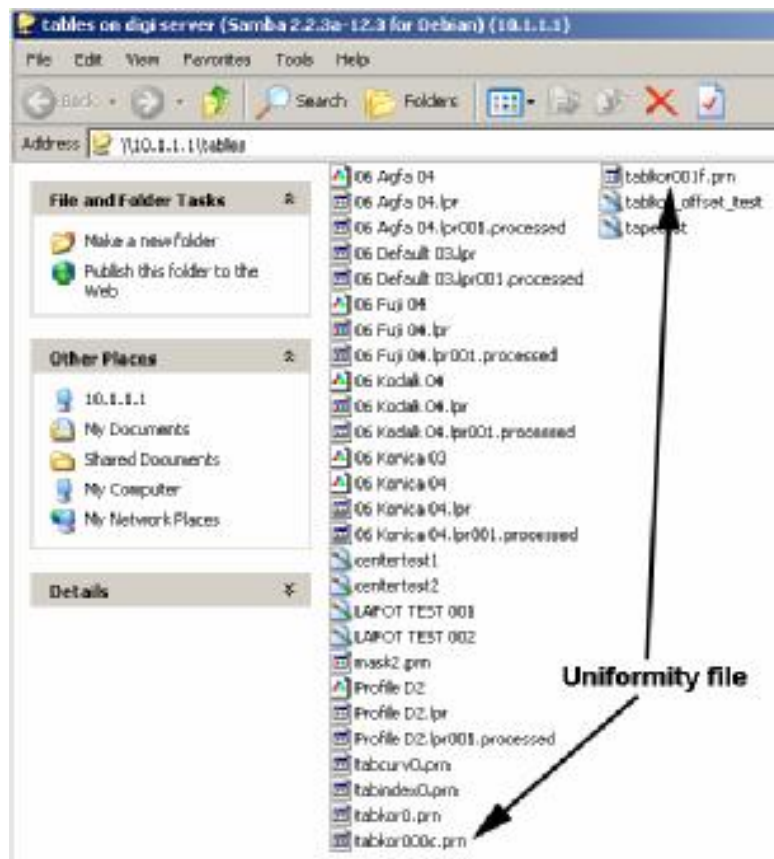

Fig 2.7.13
- While printing, the computer will select the proper lens depend on the format automatically, and in **lregedit** it will go to **etc/lens/00x/tabkor** to see which Mask file shall be used for this lens, and then go to `\\10.1.1.1\\tables` to read the corresponding file for printing (Fig 2.7.13).